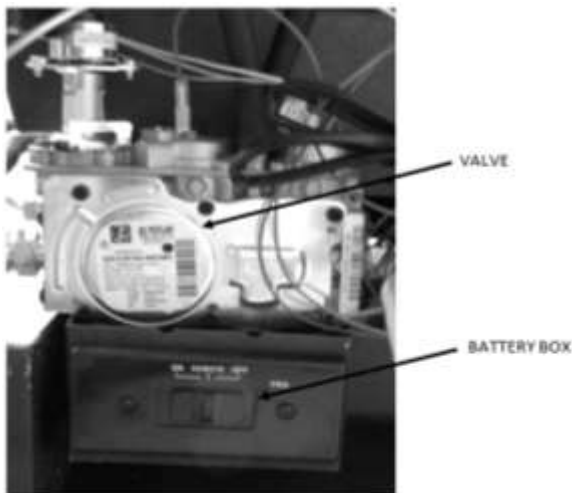

Figure 15: Valve Location
1. Remove back panel and locate the valve as seen in Figure 15.